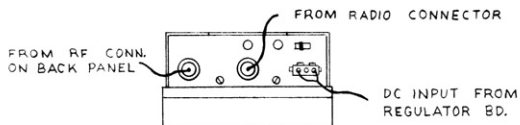

FIGURE 4
The BPS-20 LH has an on-off switch on the front panel that controls the AC input to the power supply. A microphone with a 5 pin connector (MA-93) is shipped in a second box. The accessory switch is wired so the internal speaker operates in the off mode and the external speaker operates in the on mode (thru the three pin connector on the back of the package). The accessory switch can be internally connected for other functions as the user desires (a patch board area is provided for this function, See Figure 4).
6. Plug the cables into the BPS-20 regulator board as indicated in Fig. 4. (The DC cable for the power amplifier is already installed.)